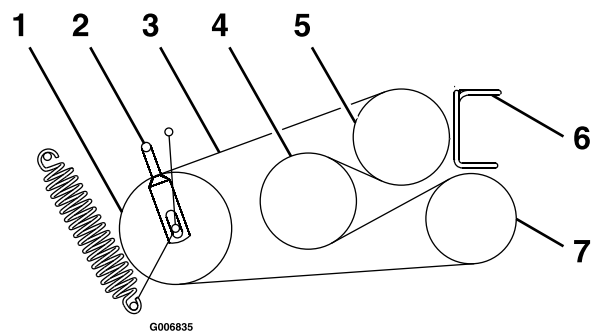

Figure 60
6. Loosen belt guides **A** and **B** (Figure 60).
8. Route the new belts onto the pulleys as shown in Figure 60.